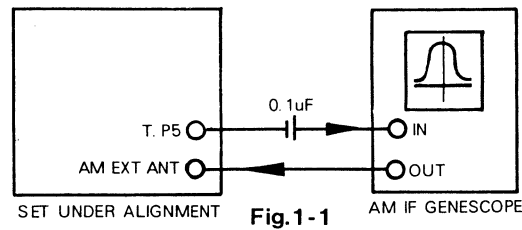

Fig.1-1
- Set up the test equipment as Fig. 1-1 and set the IF Genescope output level to 80dB(10mV).